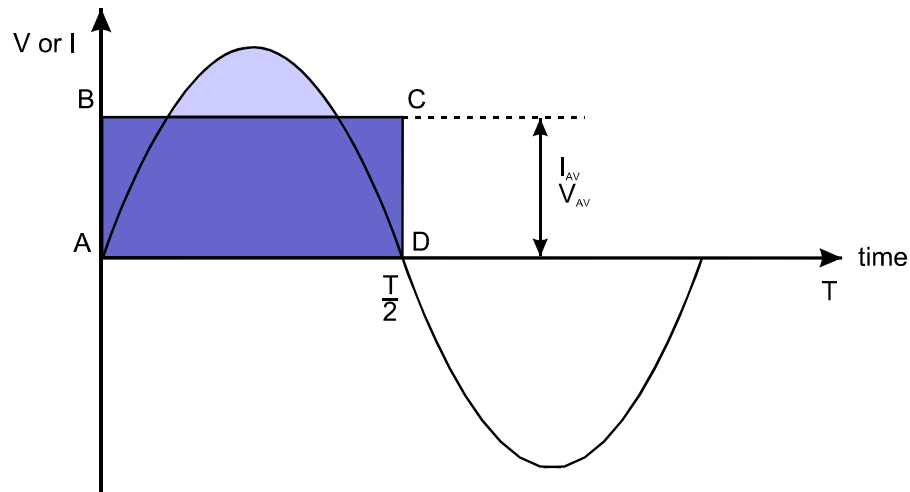

Figure 1.21
- **Average value.** Normally the average value of a sine wave is zero. During the first half-period the electrical current transfers electrical charges in one direction through the conductor. Then, during the second half-period the current transfers the same amount of charges in the opposite direction. Therefore, the net charge transferred is zero. For this reason, the average value of a sine wave is calculated for a half-period (half-cycle) only. The polarity of the half-cycle is not important and the average value could be calculated for either one of the half-cycles. Figure 1.21 shows the average value graphically.
The area enclosed from the positive half-period represents the amount of electrical charges transferred through the conductor for this half-period. Let us assume that the area enclosed from the positive half-period is equal to the area of the rectangular ABCD (see Figure 1.21). The area enclosed from the rectangular ABCD represents the same amount of electrical charges, transferred for the same time, through the same conductor, but as if a direct current with a magnitude, equal to AB flows through it. The energy dissipated, and the work done from the alternating current will be equivalent to the energy dissipated and the work done from the direct current.